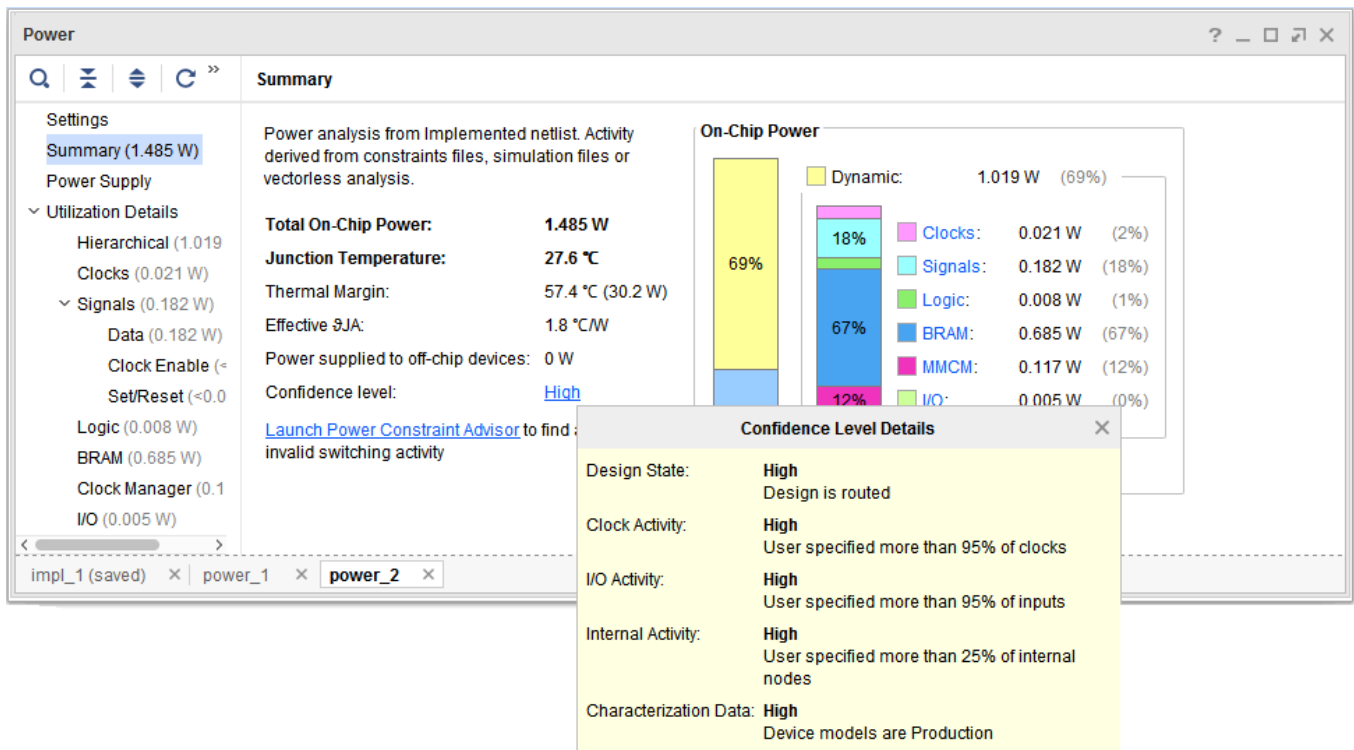

Figure 40: Confidence Level for Power Analysis with SAIF Input (power_2)
- In the **Summary** view of the **power_2** report (the report generated by the analysis for which you specified a SAIF file as input), click on **Confidence level (High)** in Figure 40.